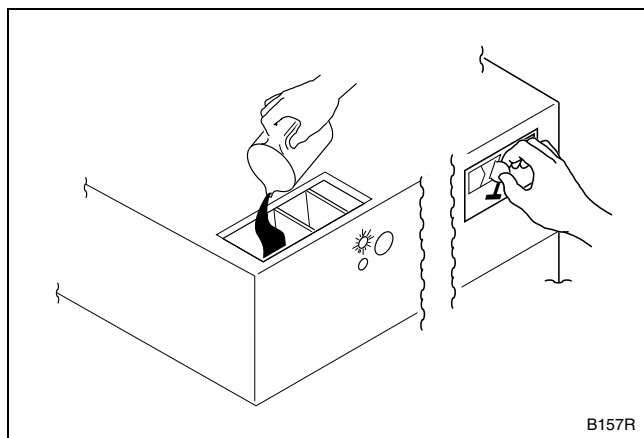

Figure 7
5. Add liquid and/or powder supplies to supply dispenser. Refer to *Figure 7*.
7. **For coin models:** Insert required number of coins to start machines. Refer to *Figure 7*.